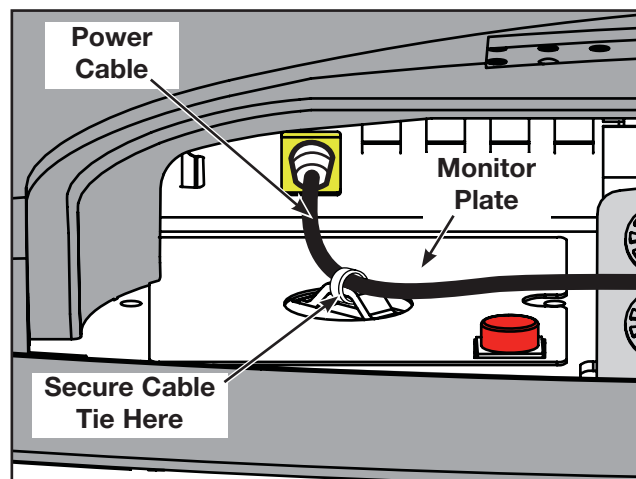

Figure 22
- G. Secure the power cable to the monitor plate using the cable tie (P). See Figure 22.